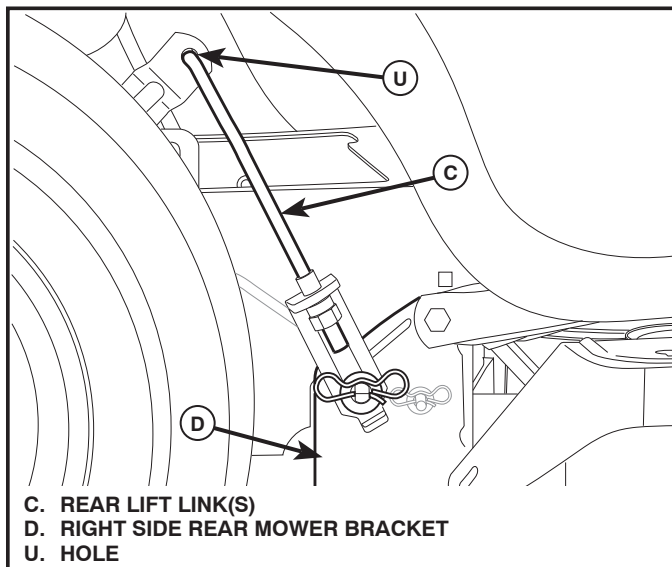

Fig. 29
## 7. ATTACH REAR LIFT LINKS (C) (See Fig. 29)
- Insert rod end of rear lift link (C) into hole (U) in tractor lift shaft suspension arm and pivot link down to mower.
- Lift rear corner of mower and position slot in link assembly over pin on rear mower bracket (D) and secure with large washer and large retainer spring.